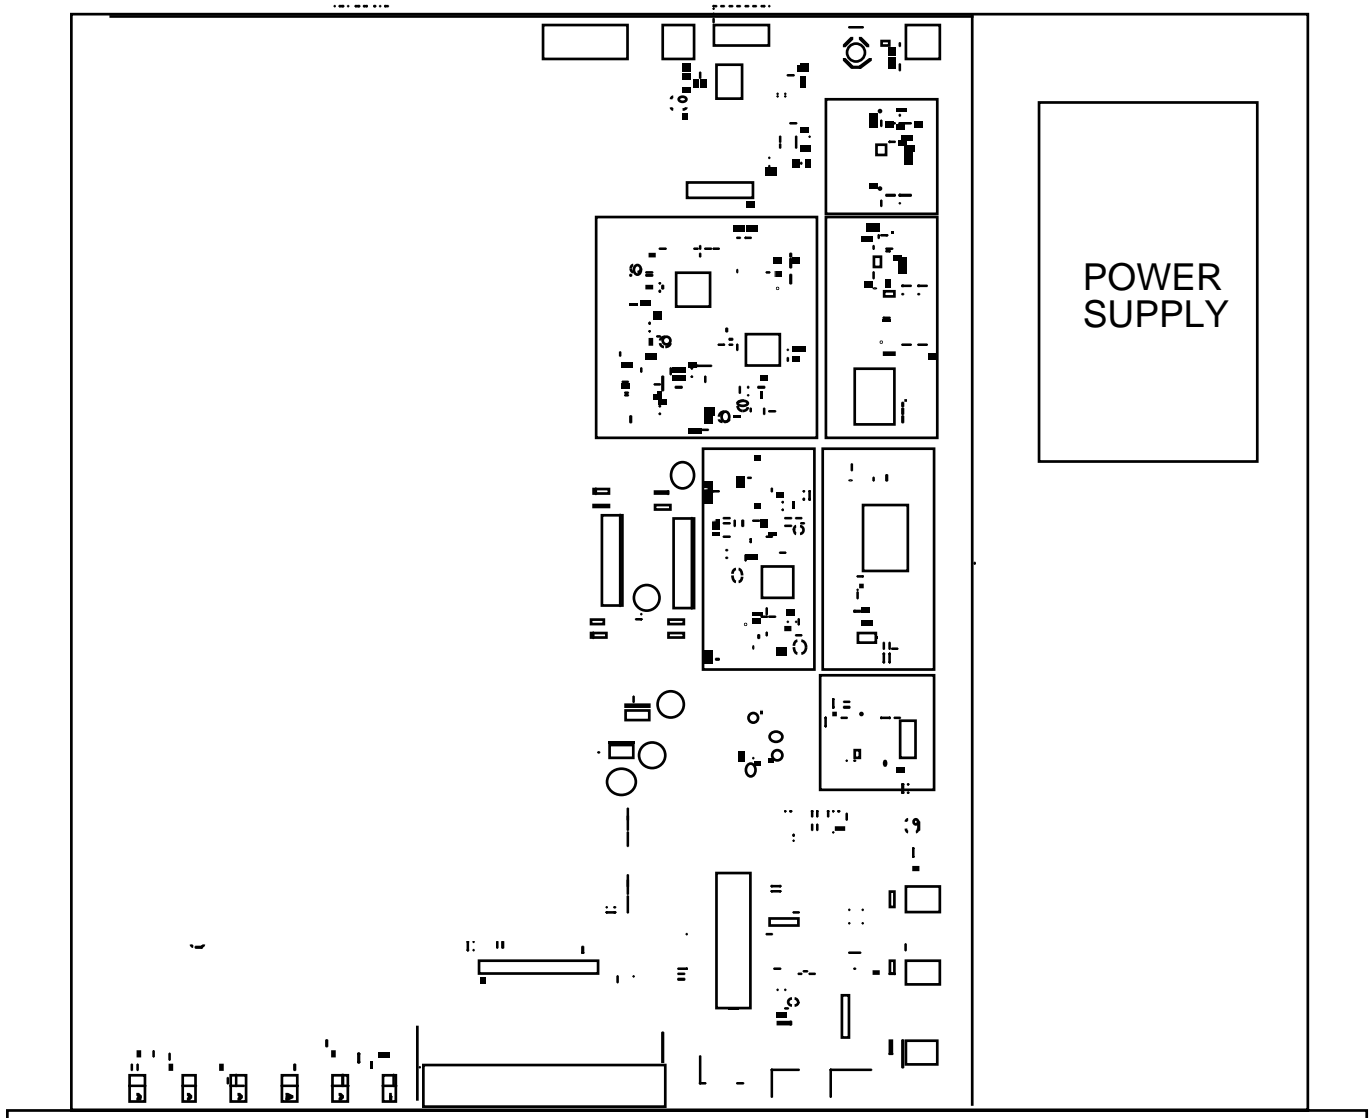

FIGURE 2.1 2016-02 Mechanical Assembly
The 2016-02 consists of one RF/Controller PCB housed in a 1 RU (1 3/4 inch high) by 16 inch deep chassis. A switching, ± 12 , +24, +5 VDC power supply provides power for the assemblies. The 2016-02 can be secured to a rack using the 4 holes on the front panel. Figure 2.1 shows how the 2016-02 is assembled.
7. Option -L only - To insert LNB +24 VDC on the RF center pin install 0.5A fast blo fuse in F1 and check that DS8 lights yellow (Figure 2.1)